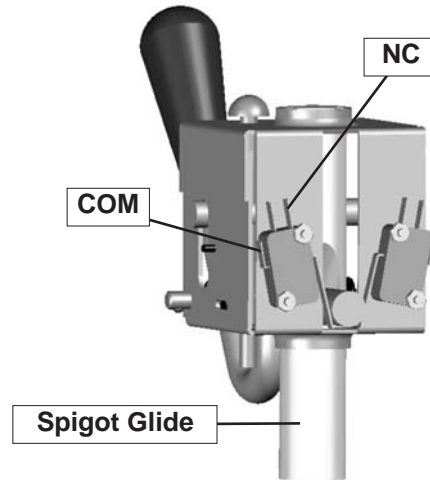

Figure 6-5 Spigot Cam Assembly (Center Spigot)
2. The clicking sound should be within the first 1/2" of the spigot glide movement (Refer to Figure 6-5). If the switch does not close, an adjustment may be necessary.